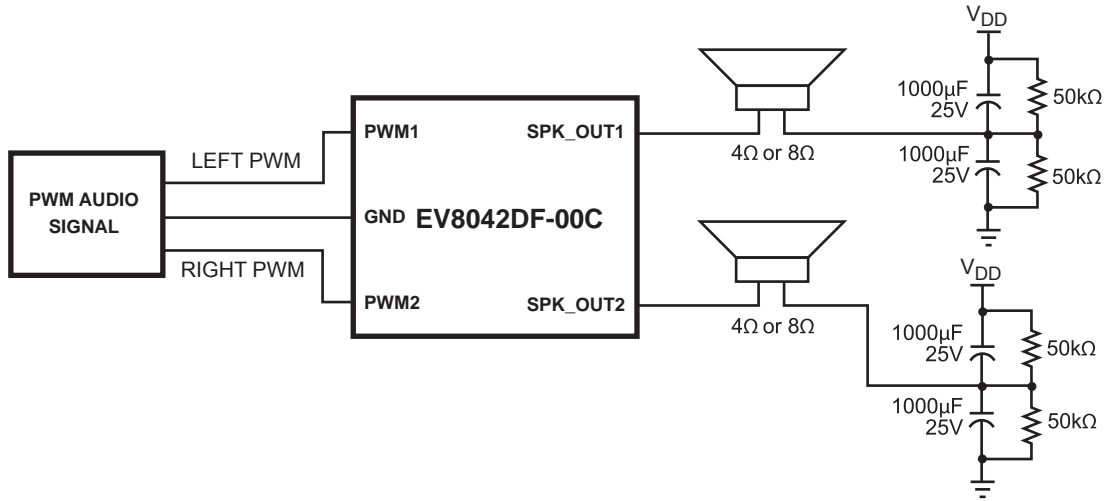

Figure 3—Setup for Single-Ended Operation
3. Remove C10 and connect the speakers as shown in Figure 3.